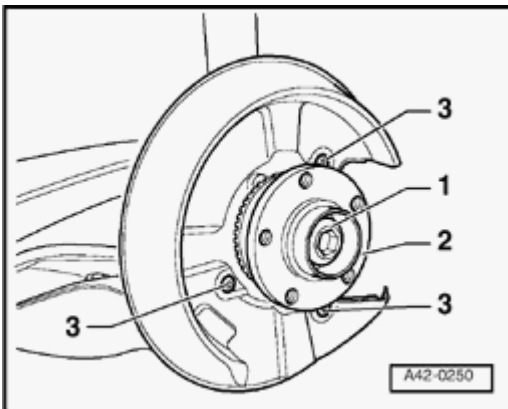

Fig. 293: Identifying Collar Bolt, Cover Plate & Wheel Bearing Unit
- Tighten collar bolt - **1** - **Fig. 293** , with prescribed additional turn , (front wheel drive) or (all wheel drive).